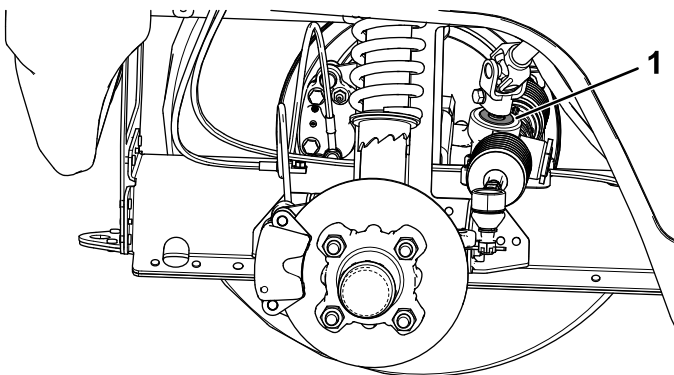

Figure 49
- Important:** Inspect the condition and security of the pinion-shaft seal (Figure 49).